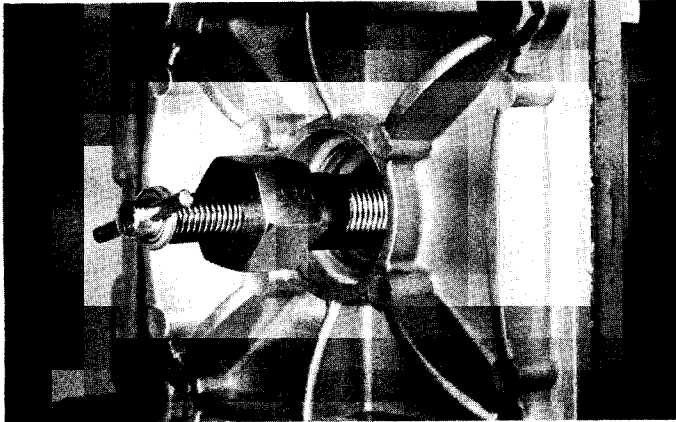

Figure 3. Timing Gauge in Spark Plug Hole
1. Thread .015" Timing Gauge (91-31161A1) into No. 3 spark plug hole of Merc 850-800, No. 4 spark plug hole for Merc 700. (Figure 3)